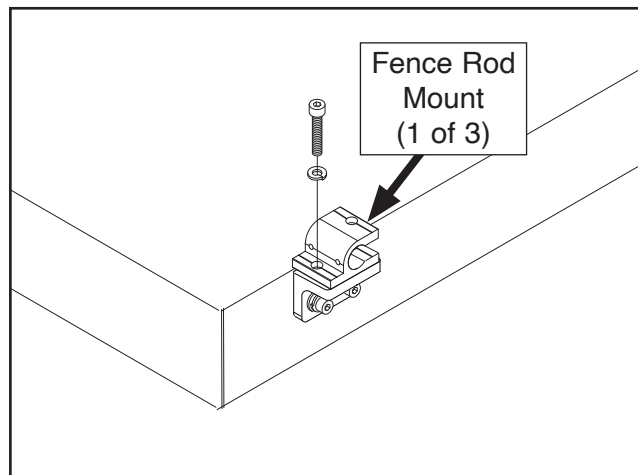

**Figure 13.** Attaching fence rod mount to fence mounting bracket.
9. Attach (3) fence rod mounts to fence mounting brackets with (3) M8-1.25 x 20 cap screws and (3) 8mm lock washers (see **Figure 13**).